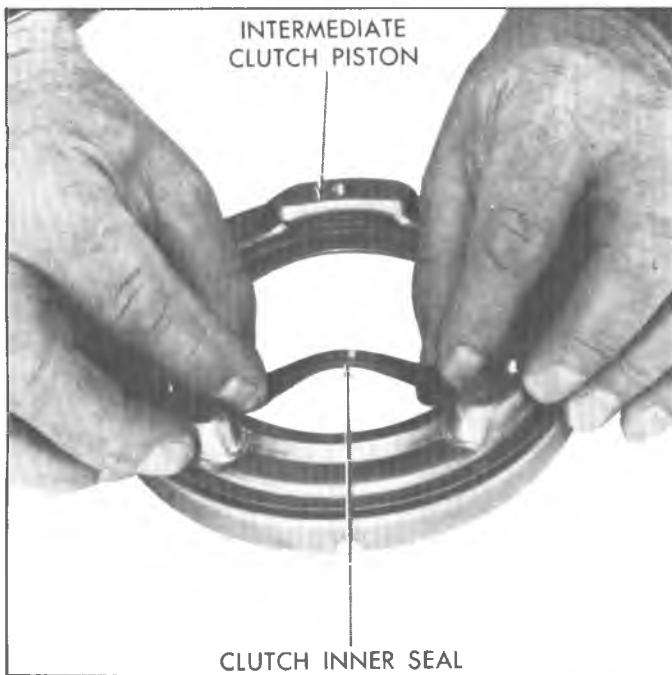

Fig. 100T--Installing Intermediate Clutch Inner Seal
1. Lubricate and install new inner and outer seals on piston with lip of seal facing away from spring pocket (fig. 100T and 101T).